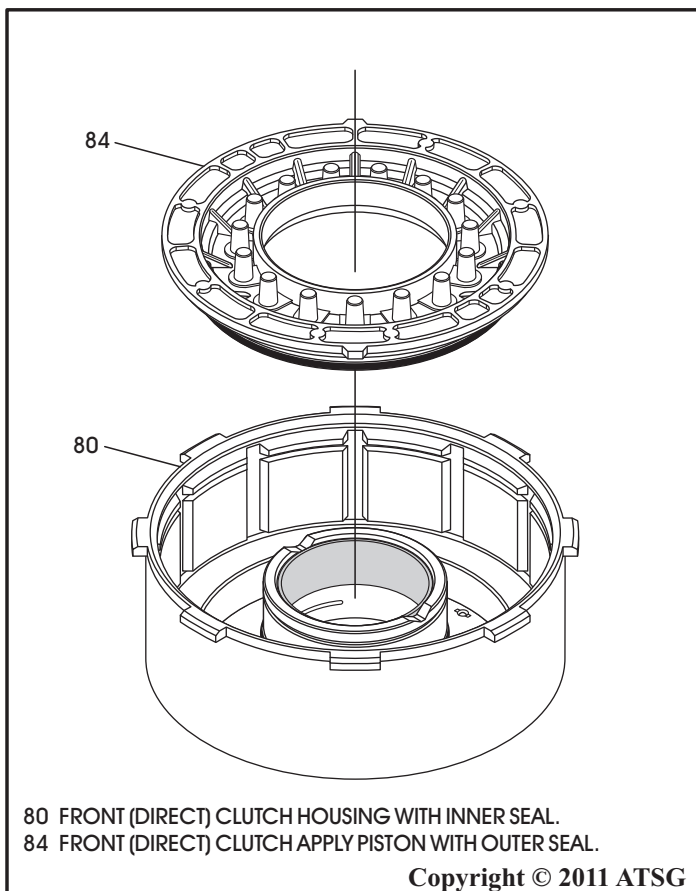

Figure 116
7. Lubricate both lip seals with a small amount of Trans-Jel®, and install direct clutch piston into direct clutch housing, as shown in Figure 116.